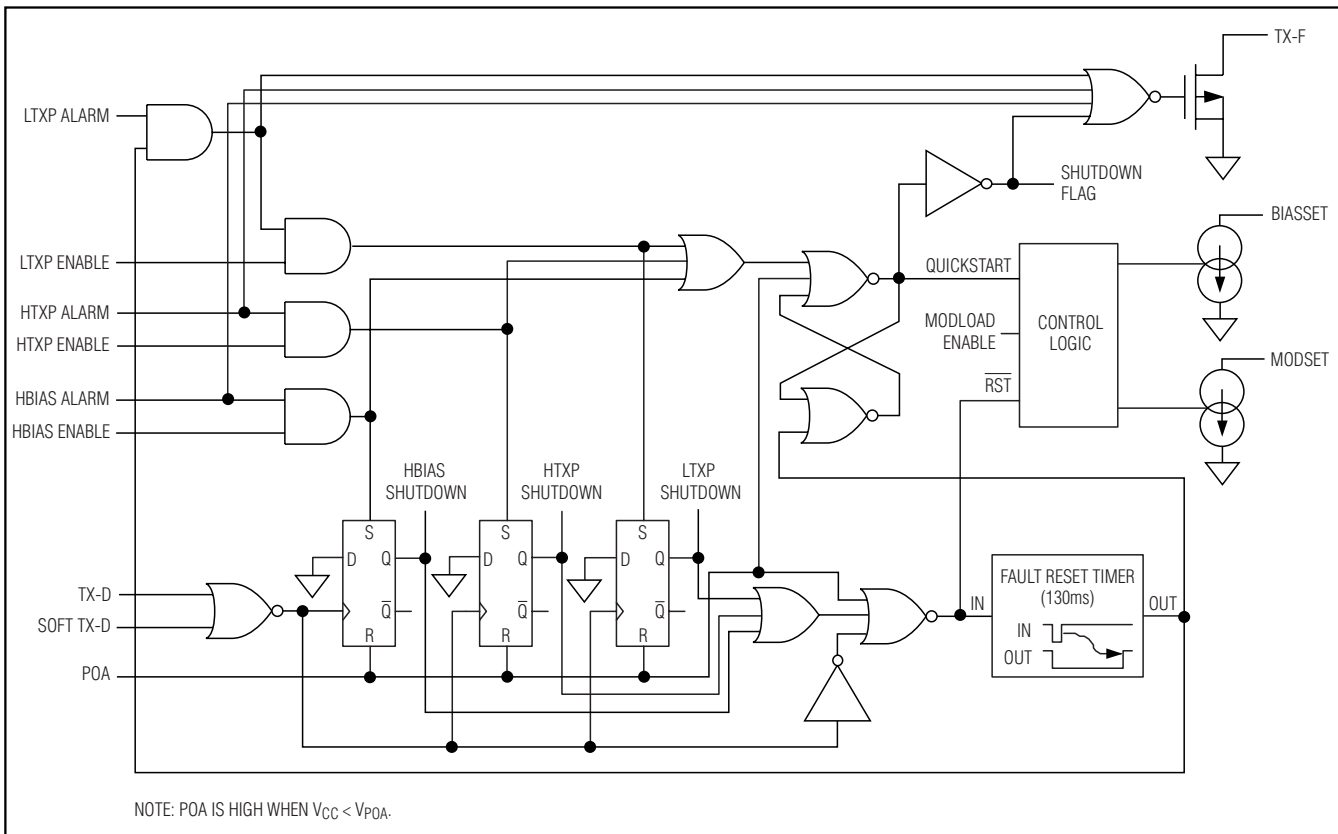

Figure 13. Quick Trip Logic Diagram
The DS1861 has a V_{CC} monitor plus three programmable quick-trip (QT) fault monitors (Figure 13) that can trigger the TX-F output. The QTs monitor for high transmit power (HTXP), low transmit power (LTXP), and for high bias current (HBIAS). All the QTs feature programmable trip levels, an alarm disable, and a shutdown enable to determine if the enabled QT alarm shuts off the IBIASSET and IMODSET outputs.
The high and low transmit power quick-trip thresholds are each programmed by 3 bits that select one of seven different levels as a function of the expected I_{BMD} current. Each QT monitor can be disabled by programming all three bits to zero. Disabling a QT by programming its control bits to zero prevents the QT alarm flags from ever being set, which consequently prevents that monitor from asserting the TX-F output, latching the device into a shutdown condition, or setting the alarm bits in the Status register. The HTXP and LTXP enable bits can be used to prevent the transmit power level QTs from causing shutdown while allowing the TX-F output to be set to flag the system of a transmit power fault condition. Figure 13 shows the shutdown logic. Tables 1 and 2 show the QT thresholds as a function of I_{BMD} current-set point.